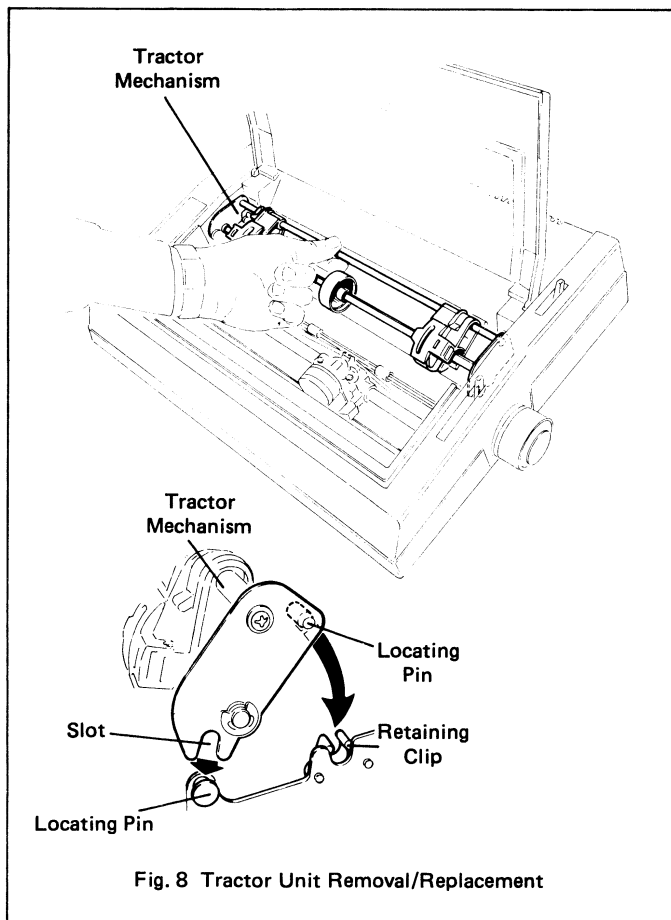

Fig. 8 Tractor Unit Removal/Replacement
- (1) Switch the printer Off-line and open the lid.
- (2) The Tractor Unit is removed by grasping the rear (round section) bar and pulling it up to disengage the ends of the bar from their retaining clips (see fig. 8).
- (3) The Tractor Unit can now be lifted away.
- (4) Engage the friction feed mechanism by moving the platen release lever fully back.
- (5) Load roll paper, if required. Close the lid and set the printer On-line.
- (1) Set the printer Off-line and open the lid.
- (2) Fit the two slots at the front of the tractor mechanism onto the locating pins above the ends of the platen (see fig. 8).
- (3) Swing the rear of the tractor mechanism down so that the locating pins on the back edges of the mechanism engage with the plastic retaining clips.
- (4) Push down the rear of the tractor mechanism until it is firmly held by the retaining clips.
- (5) Pull platen release lever fully forward to disengage friction feed.
- (6) Load fan-fold paper, close lid and set printer On-line.